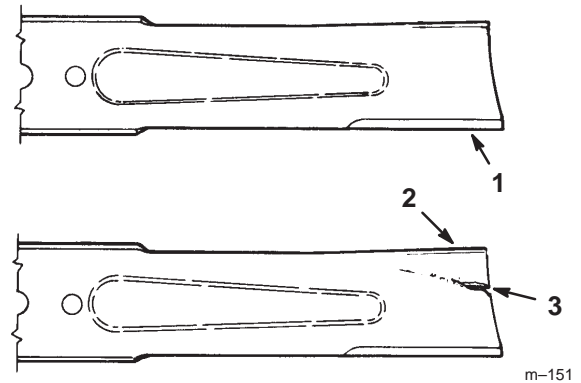

Figure 24
1. Inspect the cutting edges (Fig 24). If the edges are not sharp or have nicks, remove and sharpen the blades. Refer to Sharpening the Blades on page 26.
2. Inspect the blades, especially the curved area (Fig. 24). If you notice any damage, wear, or a slot forming in this area (item 3 in Fig. 24), immediately install a new blade.